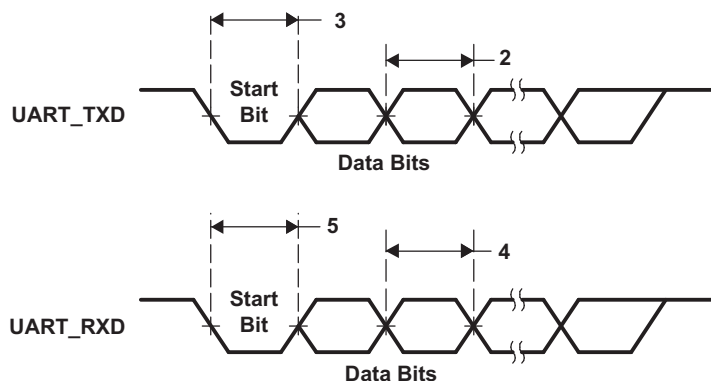

Figure 6-28. UART Transmit/Receive Timing
Table 6-29. Timing Requirements for UART Receive(1)(2) (see Figure 6-28)
(1) U = UART baud time = 1/programmed baud rate.
(2) These parametric values are measured at DVDDIO = 3.3 V, 2.75 V, and 2.5 V
Table 6-30. Switching Characteristics Over Recommended Operating Conditions for UART Transmit(1) (2) (see Figure 6-28)